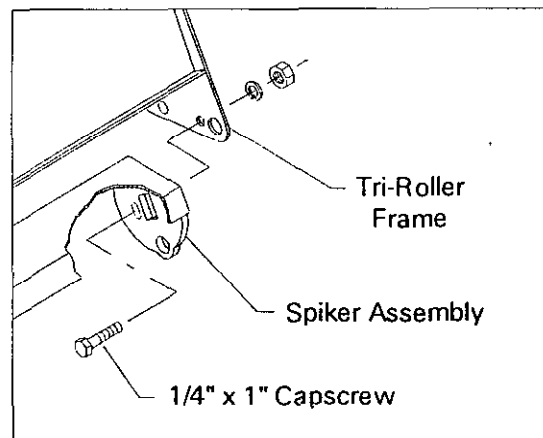

Figure 1
7. To lock the Spiker Assembly into position attach the 1/4" x 1" capscrew to the hole on the left hand side and secure. (See Fig. 1)